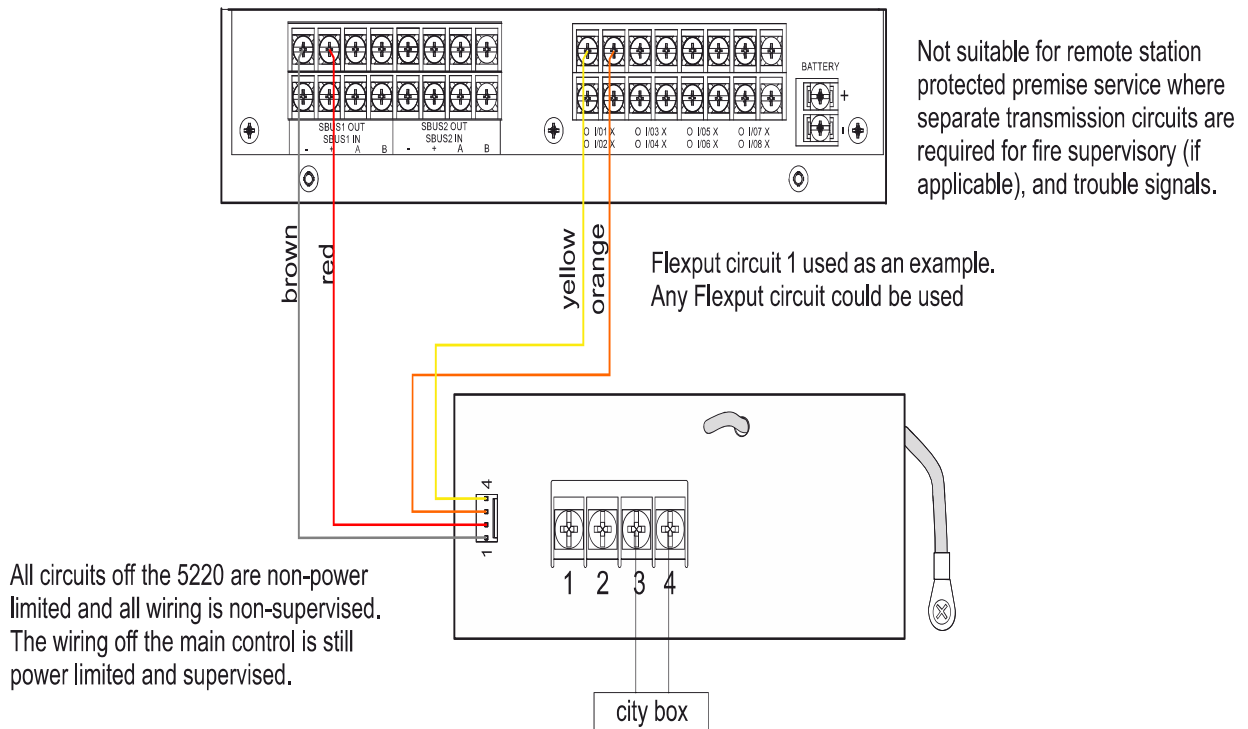

Figure 4.54 City Box Connection
2. Wire the 5220 to the control panel as shown in Figure 4.54. This drawing also shows how to connect the city box coil to terminals 3 and 4 on the 5220. Do not install an EOL resistor in the terminals of the Flexput circuit used for this application.